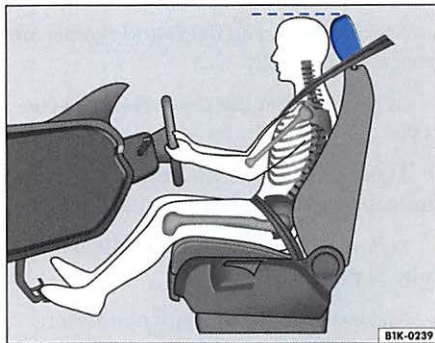

Fig. 2 Correct head restraint position for driver
- Adjust the head restraint so that the upper edge is as even with the top of your head as possible but no lower than eye level and so that it is as close to the back of your head as possible ⇒ **fig. 2**.